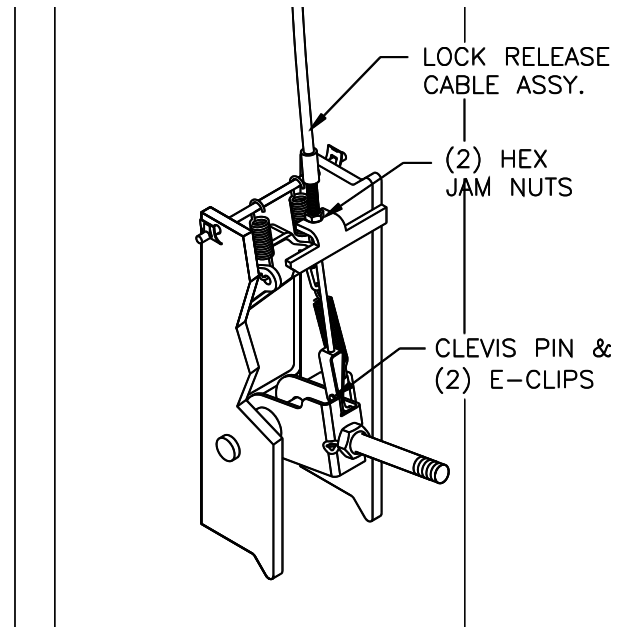

Fig. 18a-Lock Release – Power Side
- 50) Pick one end of the Lock Release Cable Assembly and attach its Threaded Adjustment Sleeve to the Upper Mounting Tab on the power side lock. Insert the adjustment sleeve into the mounting tab notch and position the adjustment sleeve nuts so the bottom of the sleeve sticks out approx. 3/8" from bottom hex jam nut, **Fig. 18a**.
- 51) Connect clevis end of the cable assembly to the center tab of the lever assembly using a clevis pin and (2) E-clips, **Fig. 18a**.